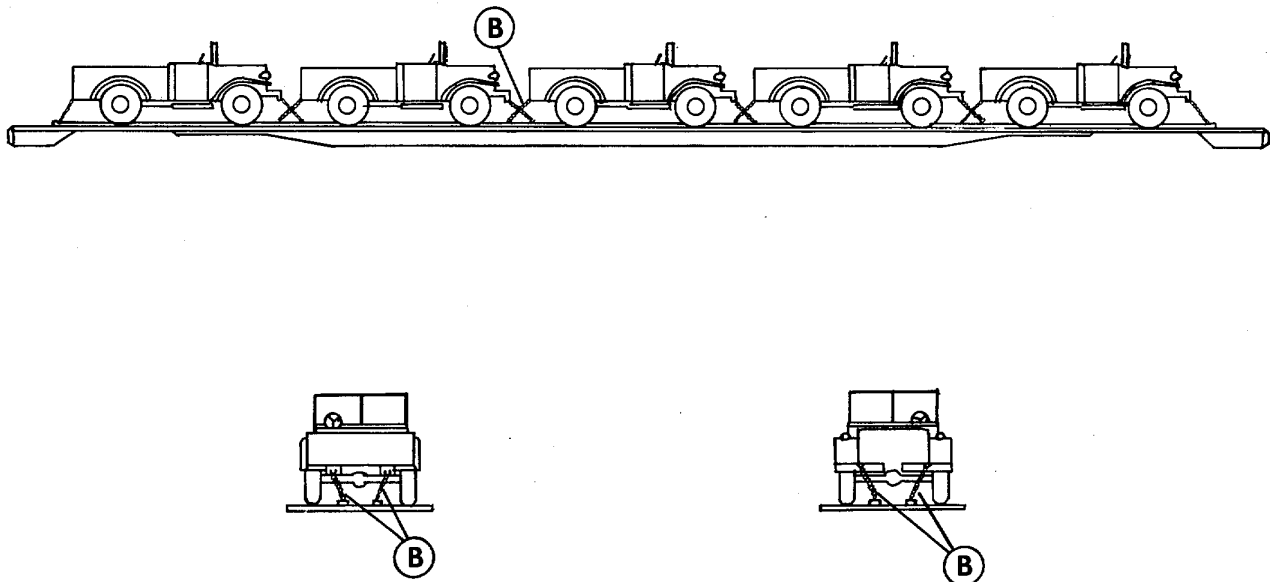

Figure 7-4. HMMWV loaded on steel-deck flatcar with center tiedowns.
b. A HMMWV loaded on a railcar equipped with a center tiedown is shown in figure 7-4. The application of chain tiedowns as well as general instructions for securing vehicles on flatcars with center tiedowns are provided in table 7-2.
Table 7-2. Application of Chain Tiedowns for Securing HMMWV on Flatcars Equipped with Center Tiedown Rails (Figure 7-4)